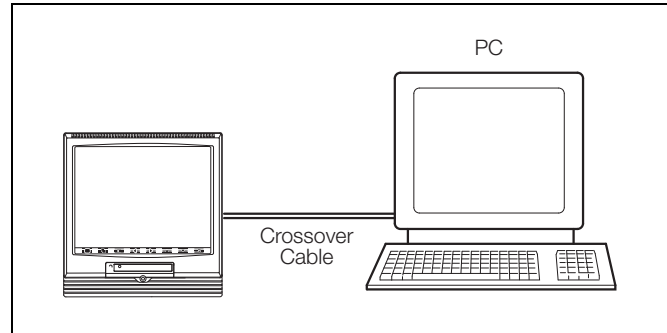

Fig. 7.16 One-to-One Connection
- Direct connection to a computer – see Fig. 7.16